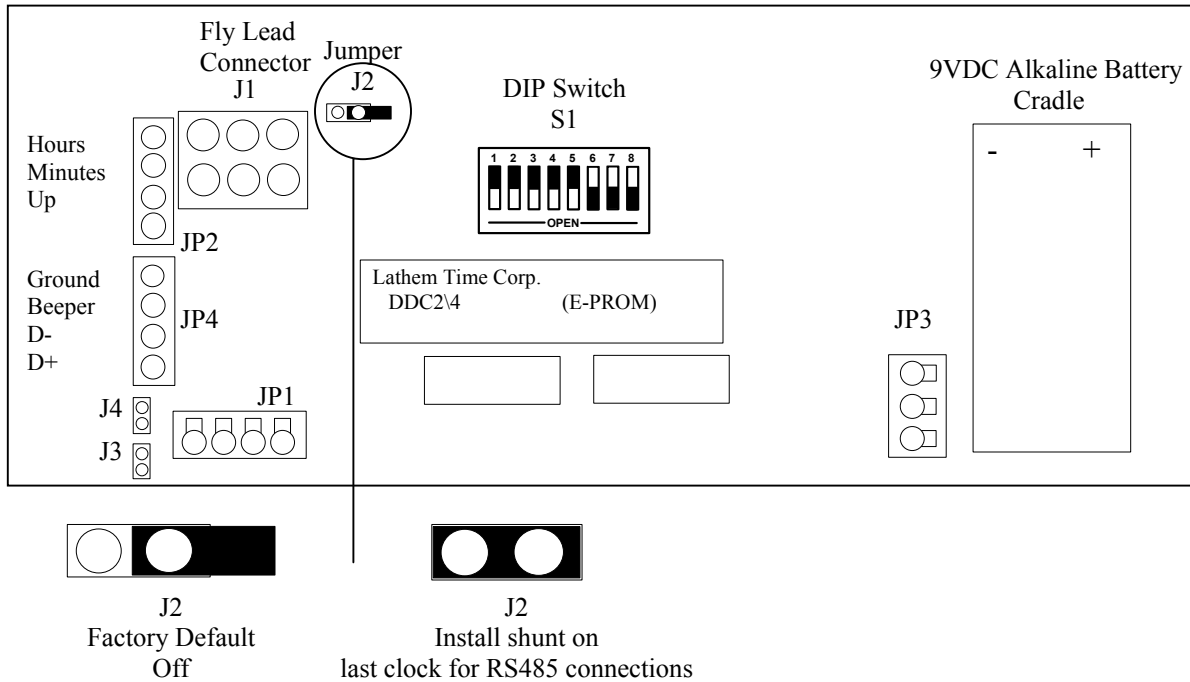

Figure 2
When multiple DDC2 (4)-RS Series Wall Clocks are installed as slave units to either the Latham LTR4-512 or LTR8-512 Master, LTR0 Mini-Master, Terminal Manager Software or the OMNI:CHRON Time Clock, the last clock on the line must have a shunt installed over both pins at position J2 (see figure 2, page 9). When shipped, the shunt is placed over only one pin of position J2 in an "open" setting. It is necessary to place the shunt over both pins of position J2 and create a "closed" setting for the last clock on the line.
Remove the four phillips head screws from the left or the right end cap and remove. Slide the lens and circuit board assembly out of the case. Place the lens aside and carefully flip the circuit board assembly over and lay it face down on a clean, smooth work surface. Locate position J2 on the left, upper side of the back of the circuit board assembly (see figure 2, page 9). Lift the shunt straight up off the single pin of position J2. Align the shunt to cover both pins of position J2 and press firmly into place. Slide the lens and circuit board assembly back into the case, replace the end cap, and secure with the four phillips head screws.
Remove the two phillips head screws from the left or the right end cap and remove. Slide the front panel assembly out of the case. Carefully flip the front panel assembly over and lay it face down on a clean, smooth work surface. Locate position J2 on the left, upper side of the back of the front panel. (See figure 2, page 9) Lift the shunt straight up off the single pin of position J2. Align the shunt to cover both pins of position J2 and press firmly into place. Slide the front panel display back into the case, replace the end cap and secure with the two phillips head screws.
Remove the four phillips head screws from the left or the right end cap and remove. Slide the lens and circuit board assembly out of the case. Place the lens aside and carefully flip the circuit board assembly over and lay it face down on a clean, smooth work surface. Locate the Battery Cradle on the upper right corner of the circuit board assembly. (See figure 2, page 9) Slide the battery into the cradle making sure the Positive and Negative connections of the battery and cradle match. Snap the battery onto the connections located inside the battery cradle. Slide the lens and circuit board assembly back into the case, replace the end cap and secure with the four phillips head screws.
Remove the two phillips head screws from the left or the right end cap and remove. Slide the front panel assembly out of the case. Carefully flip the front panel assembly over and lay it face down on a clean, smooth work surface. Locate the Battery Cradle on the upper right corner of the circuit board assembly. (See figure 2, page 9) Slide the battery into the cradle making sure the Positive and Negative connections of the battery and cradle match. Snap the battery onto the connections located inside the battery cradle. Slide the front panel display back into the case, replace the end cap and secure with the two phillips head screws.
Remove the four phillips head screws from the left or the right end cap and remove. Slide the lens and circuit board assembly out of the case. Place the lens aside and carefully flip the circuit board assembly over and lay it face down on a clean, smooth work surface. Remove one of the vent caps from the case of the wall clock and route the power cord through it to the back of the circuit board assembly. (If the power cord will be routed through the back-of-the-clock conduit access, route the cord through the gang box and conduit access hole to the back of the circuit board assembly). Strip away 1/2" of the protective shield from each wire of the power cord. Locate the two black wires leading from J1 (see figure 2, page 9) and attach the AC In line of the cord to one and the AC Return line to the other. (normally black is AC In and white is
Remove the two phillips head screws from the left or the right end cap and remove. Slide the front panel assembly out of the case. Carefully flip the front panel assembly over and lay it face down on a clean, smooth work surface. Remove one of the vent caps from the case of the wall clock and route the power cord through it to the back of the display panel. (If the power cord will be routed through the back-of-the-clock conduit access, route the cord through the gang box and conduit access hole to the back of the circuit board assembly). Strip away 1/2" of the protective shield from each wire of the power cord. Locate the two black wires leading from J1 (see figure 2, page 9) and attach the AC In line of the cord to one and the AC Return line to the other (normally black is AC In and white is AC Return). Attach the ground wire of the cord, (normally green) to the green ground screw located on the inside back of the case. Slide the front panel display back into the case, replace the end cap and secure with the two phillips head screws.
The DDC Wall Clock comes with a detachable wiring harness to make installation easier. The wiring harness can be removed from the back of the main circuit board at position J1 as shown in figure 2 so wiring from the master clock can be attached to the wiring harness with the clock's Electronic Assembly removed. The leads from the wiring harness should be connected as shown in the diagrams in Appendix A.
The DDC Wall Clock comes with a detachable wiring block to make installation easier. The wiring block can be removed from the back of the main circuit board at position JP4 as shown in figure 2 so wiring from the master clock can be attached without the need of holding the Wall Clock itself. Wiring should be connected as shown in the diagrams in Appendix C.
The DDC Wall Clock comes with a detachable wiring block to make installation easier. The wiring block can be removed from the back of the main circuit board at position JP2 as shown in figure 2 so wiring from the Timer Control Panel can be attached without the need of holding the Wall Clock itself. Wiring should be connected as shown in the diagrams in Appendix D.